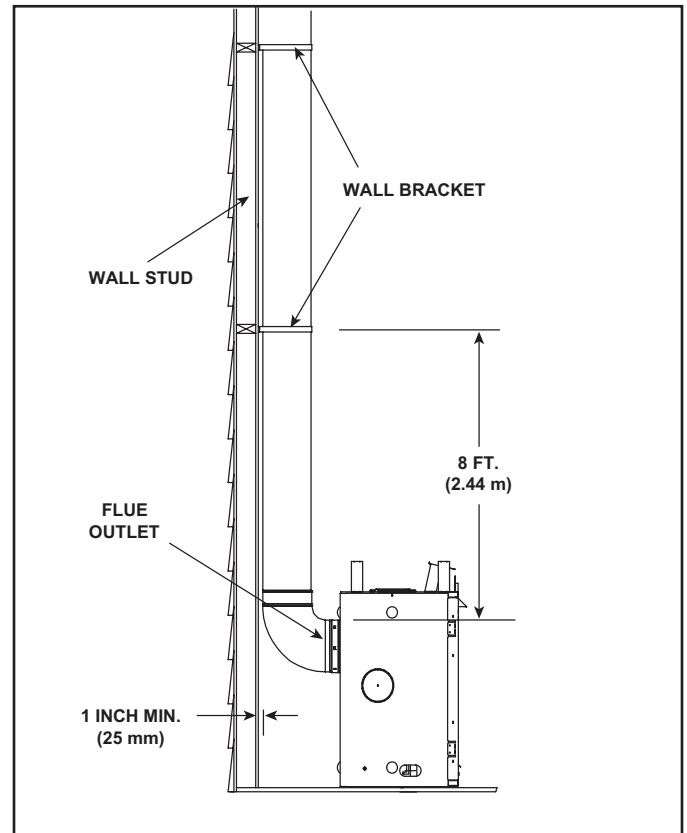

Figure 10.12 Installing Support Brackets
**For Horizontal Runs** - The flue system must be supported every five (5) feet (1.52 m) of horizontal run by a horizontal pipe support. To install support brackets for horizontal runs:
**For Vertical Runs** - The flue system must be supported every eight feet (2.44 m) above the heater flue outlet by wall brackets (see Figure 10.12). To install support brackets for vertical runs: